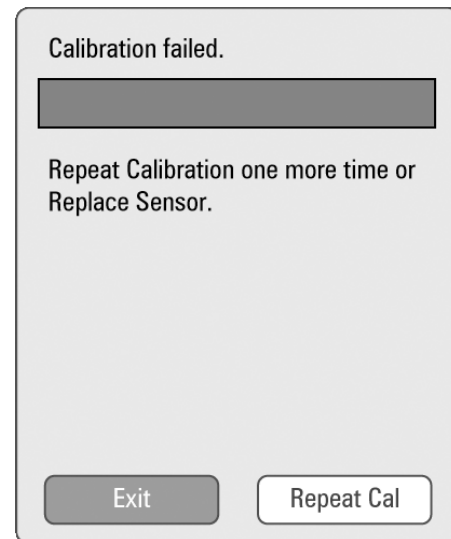

FIGURE 2-19 Oxygen Sensor Calibration Failed
- **If the calibration fails**, the screen shown in FIGURE 2-19 will be displayed, instructing the user to either repeat the calibration (by selecting the **Repeat Cal** button) or to replace the oxygen sensor. If the oxygen sensor must be replaced, select the **Exit** button, replace the oxygen sensor using a push and turn motion, and then repeat the calibration.